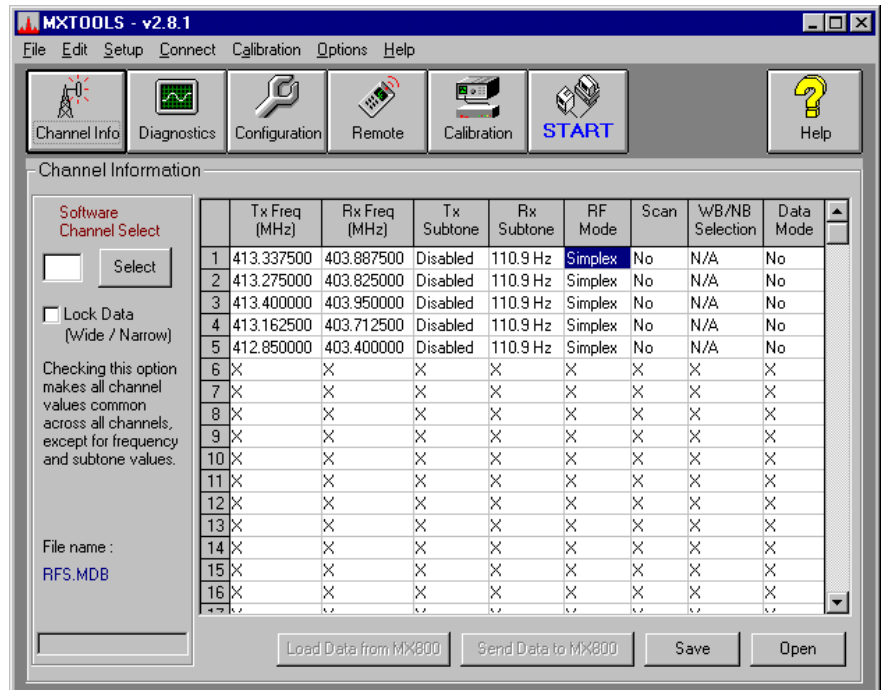

Figure 1
4. When programming the MX800, ensure that the “RF Mode” is set to “Simplex” (as opposed to “Repeater”). This is for all bases, whether they be TTR’s, TTL’s, Links, End Site Links. This is because when the MX800 is used with the A800-SIM, the A800-SIM must control whether the MX800 repeats or not. Refer to Figure 1.